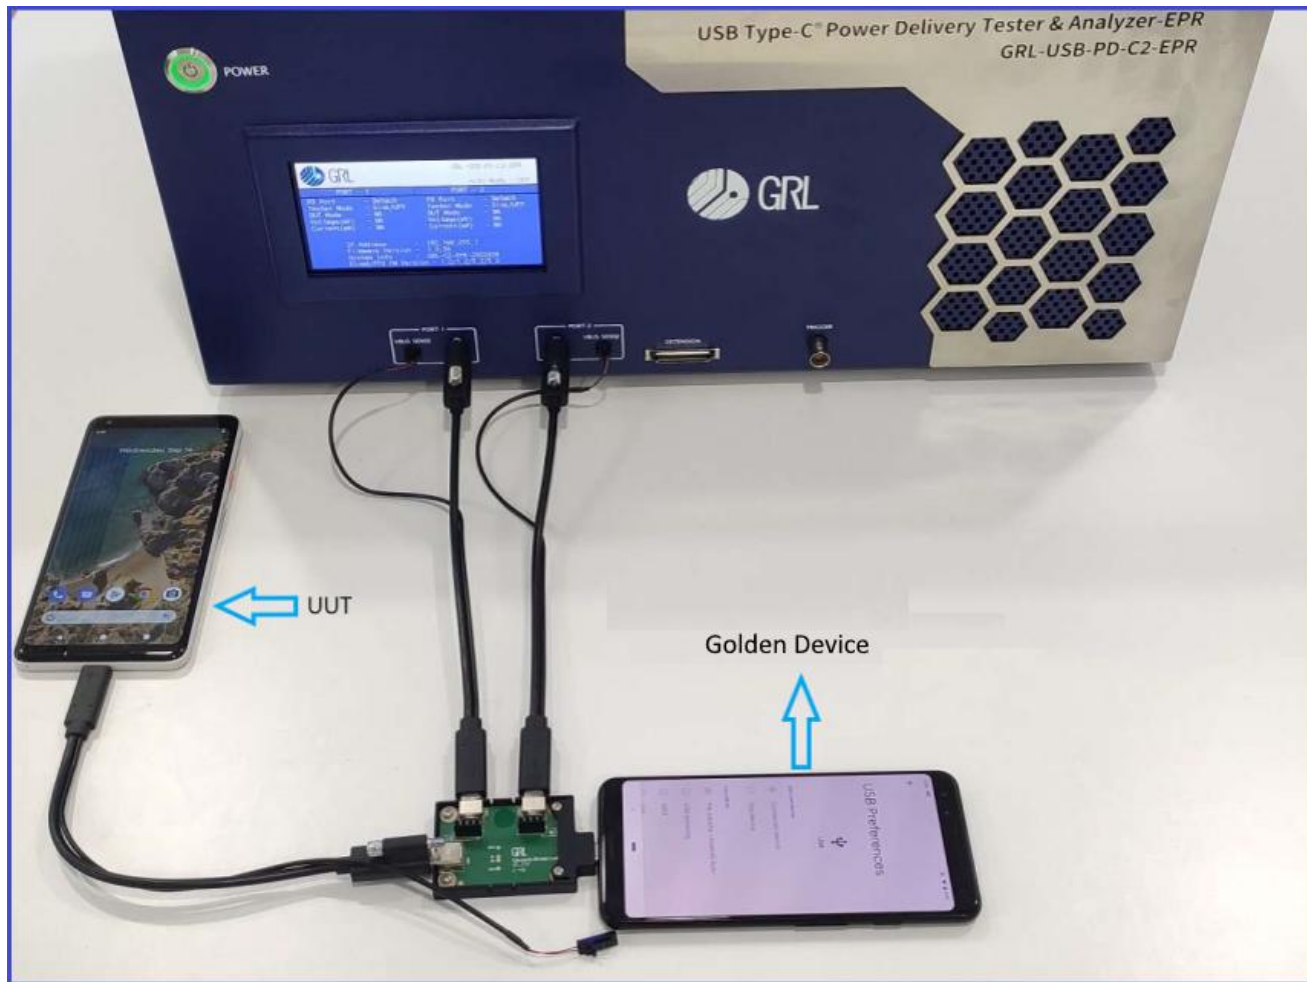

FIGURE 4.3: USB DATA VALIDATION TEST CONNECTION SETUP EXAMPLE
Figure 4.3 below shows an example hardware connection setup for USB data validation test.
1. Connect the equipment for USB Data Validation Test setup as shown in Figure 4.3.